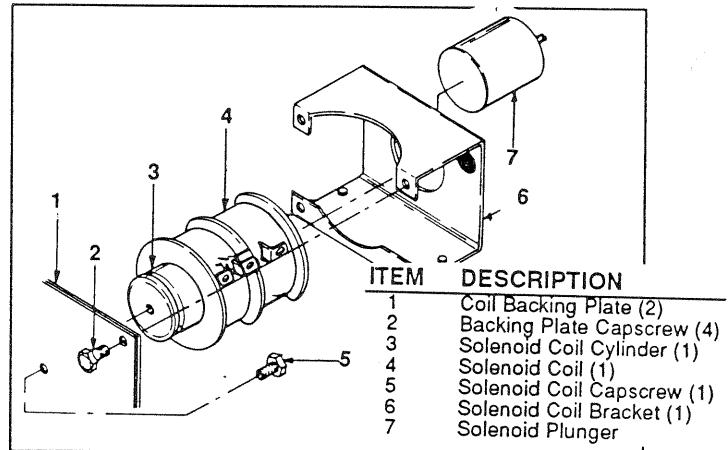

Figure 7. Solenoid Coil Removal
1. See Figure 7. Remove four capscrews that retain the coil backing plate. Also remove the capscrew that retains the solenoid coil to the backing plate.